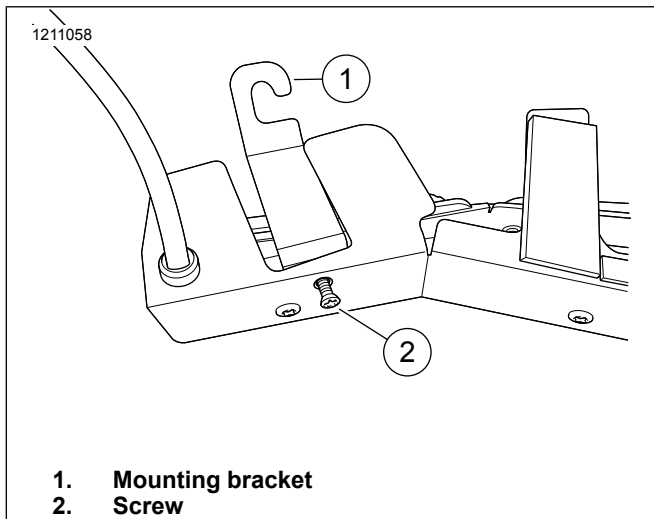

Figure 5. Bracket and Screw
4. See Figure 5. Position mounting bracket (1) into opening with angle of bracket facing up.